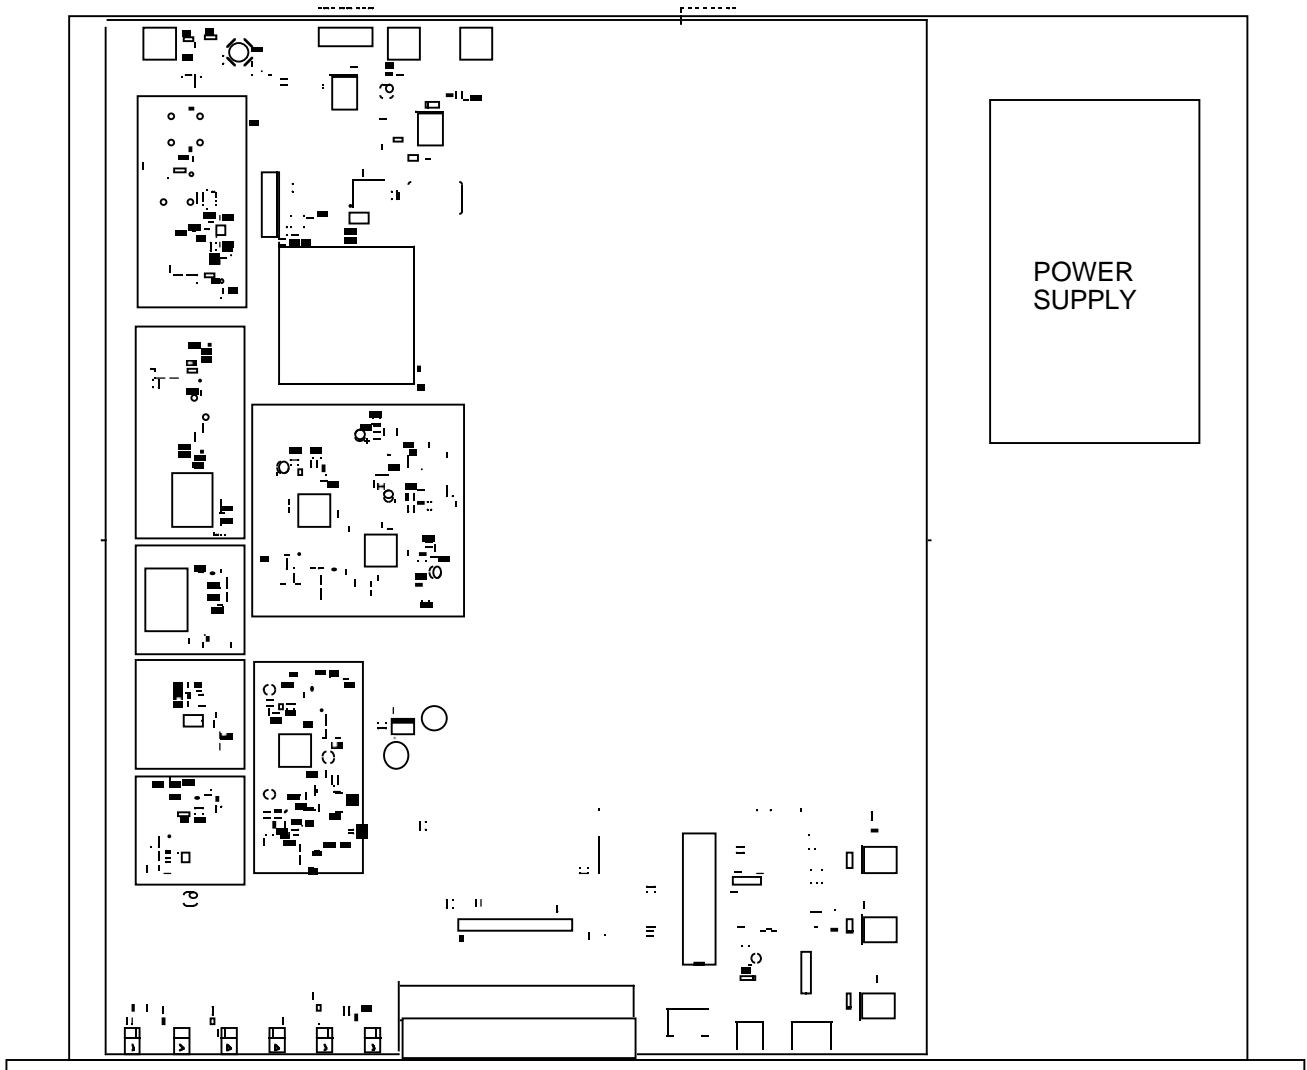

FIGURE 2.0 2015-14 Mechanical Assembly
2.1 Mechanical - The 2015-14 consists of one RF/Controller PCB housed in a 1 RU (1 3/4 inch high) by 16 inch deep chassis. A switching, ± 12 , +24, +5 VDC power supply provides power for the assemblies. The 2015-14 can be secured to a rack using the 4 holes on the front panel. Figure 2.0 shows how the 2015-14 is assembled.